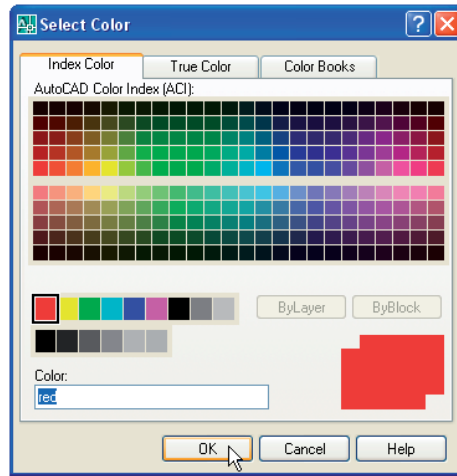

Fig. 4.19 The **Select Color** dialog
4. **Click** against one of the squares under the **Color** column of the dialog. The **Select Color** dialog appears (Fig. 4.19). **Double-click** on one of the colours in the **Index Color** squares. The selected colour appears against the layer name in which the square was selected. Repeat until all the five new layers have a colour.